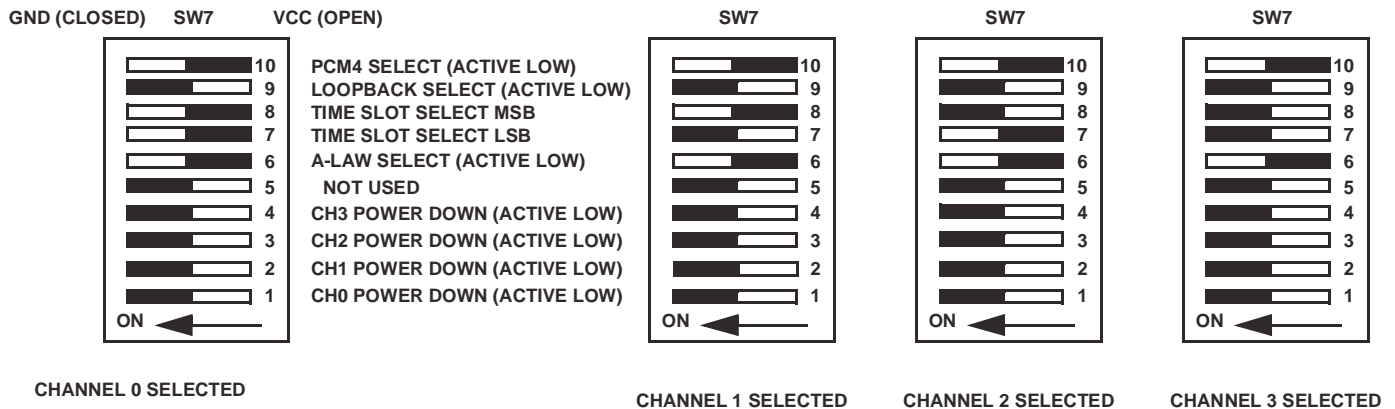

FIGURE 2. MOTHER BOARD SW7 DEFINITIONS AND CHANNEL SELECTION
- Configure dipswitch SW7 as shown in Figure 2 for Channel 0 selected.
1. Configure SW7 on the mother board for testing channel 0 with the PCM4. Reference Figure 2.